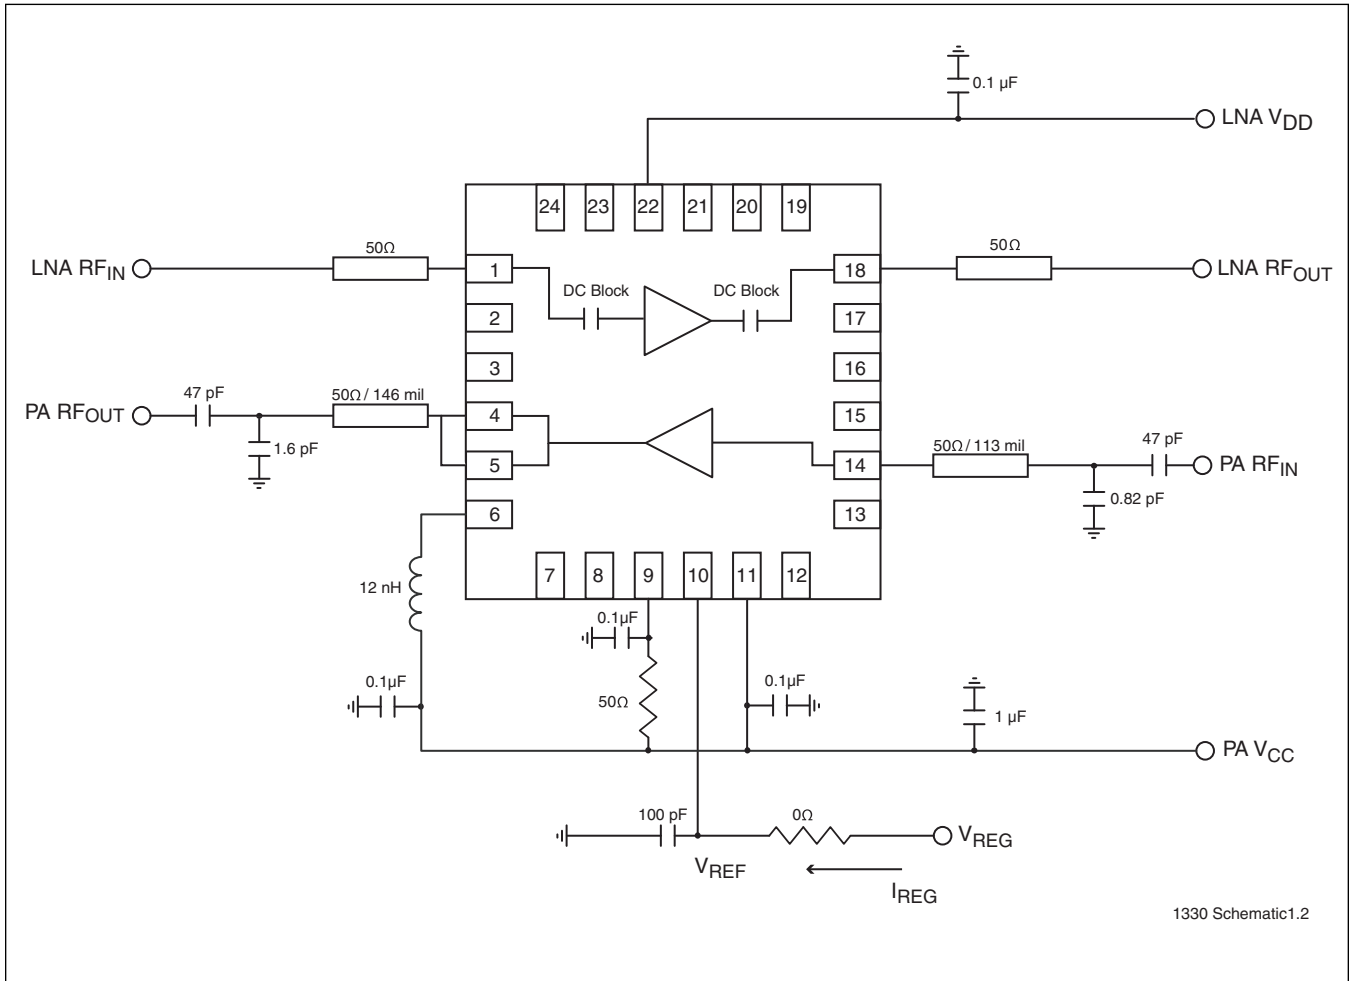

FIGURE 15: Typical Schematic
1.  $V_{REF}$  and  $V_{REG}$  are defined in Figure 15. Three combinations of resistor values and applied voltages of  $V_{REG}$  are suggested in Table 2.